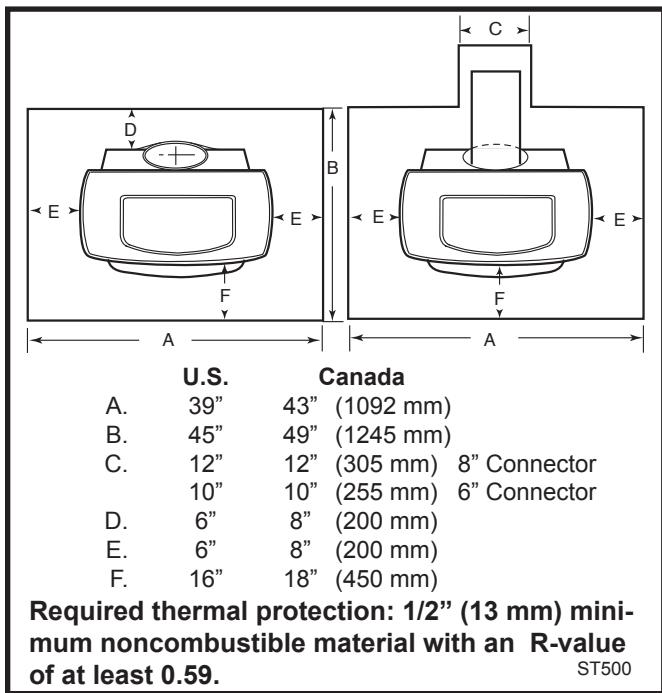

Fig. 12 Required floor protector dimensions for both top-and rear-exiting stove.
**U. S. installations** the floor protector is required under the stove and must extend at least 16" (not including the ash lip) from the front of the stove ("F", Fig. 12), and at least 6" from the sides and rear. ("D" and "E", Fig. 12) It must also extend under the chimney connector and 2" to either side. ("C", Fig. 12) For the 8" (203 mm) connector, the protector must be a minimum of 12" (305 mm) wide. For the 6" (152 mm) connector, the protector must be 10" (254 mm) wide. The protector must be centered under the connector.
**In Canada:** A noncombustible floor protector is required under the stove as well. The floor protector must extend 18" (450 mm) to the front ("F", Fig. 12), and 8" (200 mm) from the sides and rear. ("D" and "E", Fig. 12)
Floor protection also must extend under the chimney connector and 2" (51 mm) to either side. ("C", Fig. 12) For the 8" (203 mm) connector, the protector must be a minimum of 12" (305 mm) wide. For the 6" (152 mm) connector, it must be at least 10" (254 mm) wide. The protector must be centered under the connector.